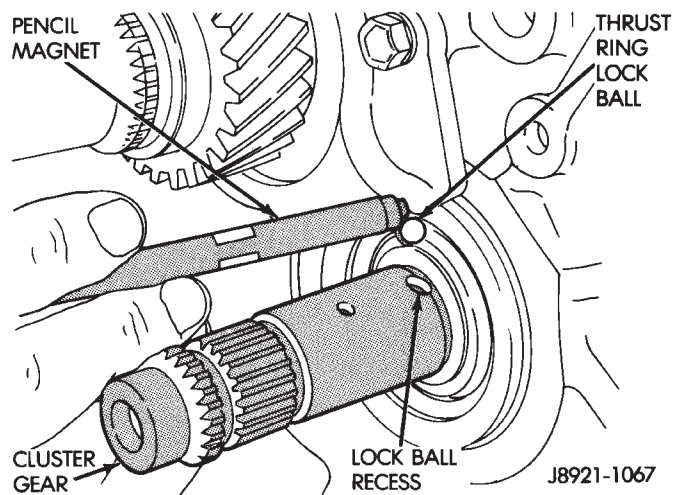

Fig. 37 Thrust Ring Lock Ball Removal
(18) Remove thrust ring lock ball with pencil magnet (Fig. 37).